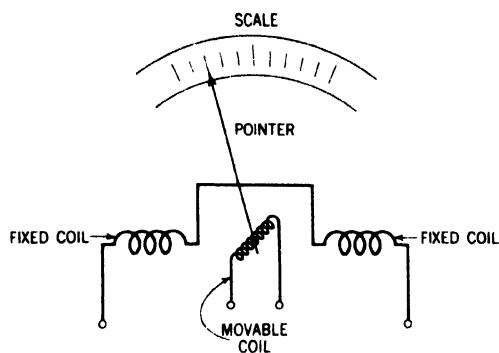

Fig. 31-25. Diagram of the dynamometer principle.
**Dynamometer Type of Meter.** Another type of alternating-current meter employs the *dynamometer principle*. This meter resembles the direct-current wattmeter, having a fixed field coil and a movable armature coil (Fig. 31-25).